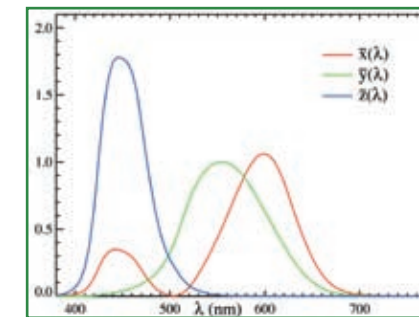

Figure 2: CIE 1931 color matching functions
With this type of RGB-based system, the targeted white color point can be represented by color temperature (CT) and luminance level (Y_{ref}), or by tri-stimulus values (X_{ref} , Y_{ref} , Z_{ref}). The accuracy of color management depends on the performance the RGB color sensor. The sensor should be capable of the response times that are required for CIE color-matching functions, as illustrated in Figure 2.